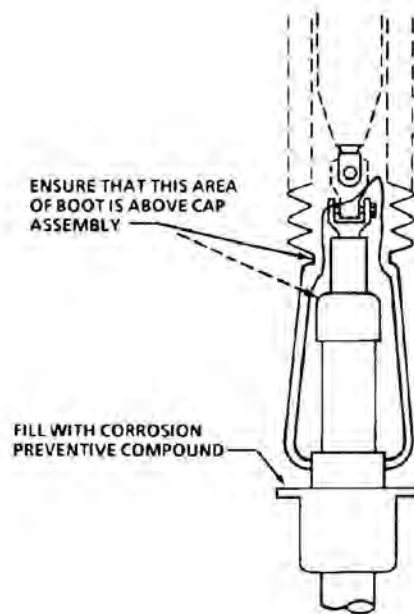

Figure 29-8. Hydraulic cylinder boot
29.3.8.3.5 Place boot (6) over end of control tube (5). Fill cavity of housing (9) with corrosion preventive compound (C-104). Secure lower end of boot to housing (9, Figure 29-8).